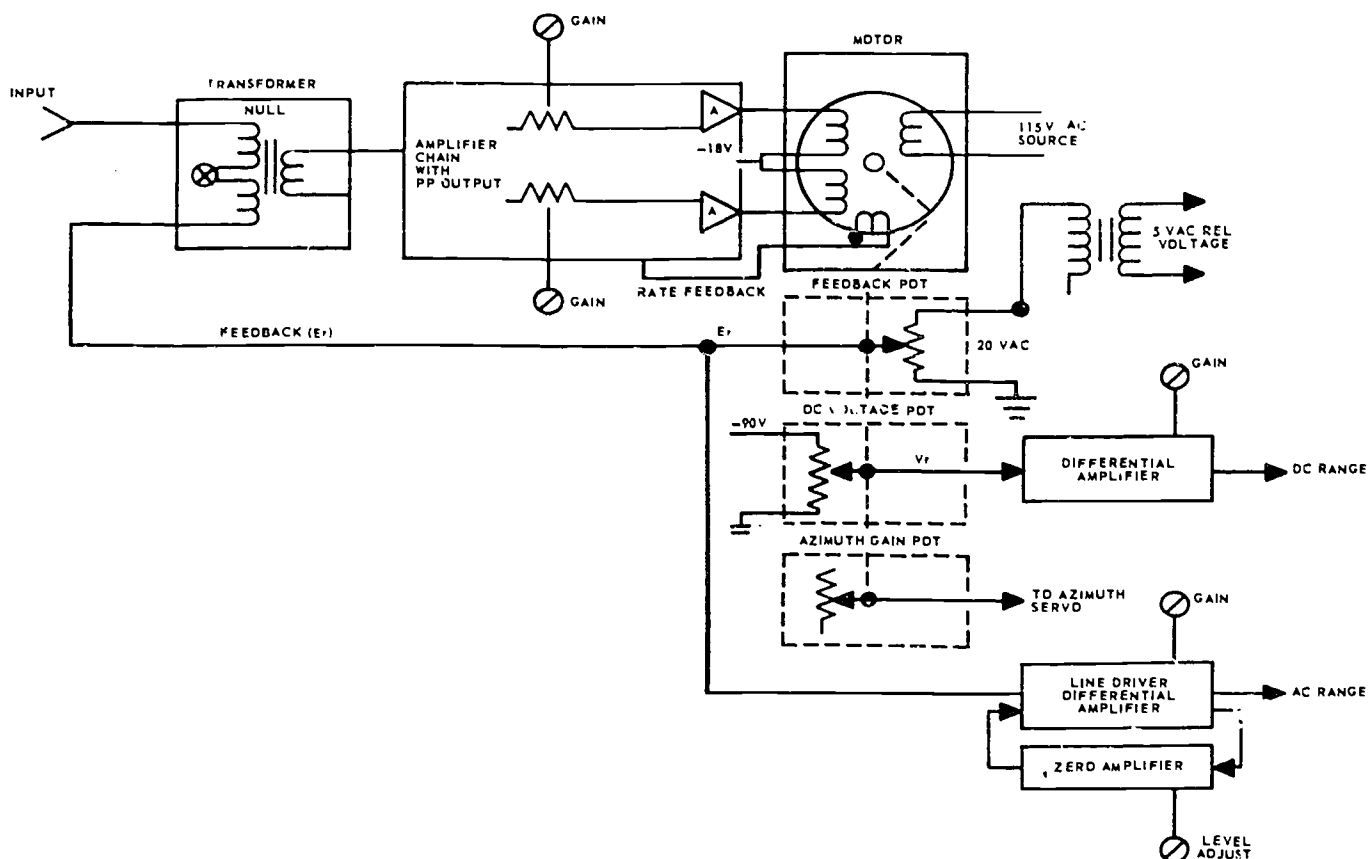

Figure 2-47. Servo subelements.
You must identify the subelements, circuits, and components of the unit to be aligned. Figure 2-47 illustrates these elements. They are, left to right:
3. Referring to the typical servo shown in figure 2-47, where can you expect to find the null point in servo units?